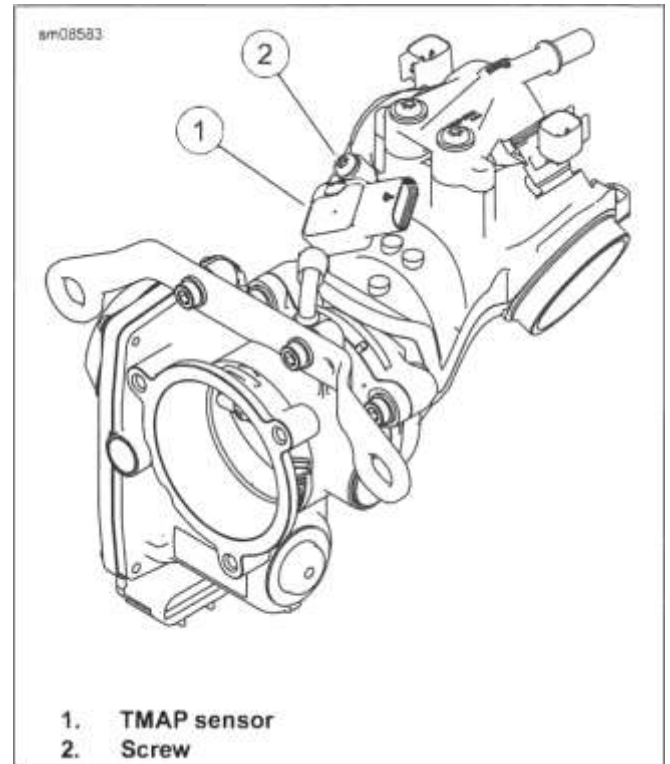

Figure 6-23. TMAP Sensor
2. See Figure 6-23. Remove TMAP sensor.
- a. Remove screw (2).
- b. Remove sensor (1).
1. See Figure 6-23. Install TMAP sensor.